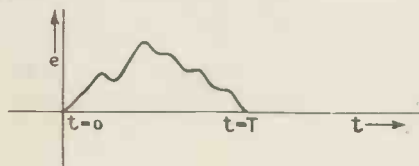

Fig. 9. — Arbitrary wave as generated in television signals.
Similarly, any arbitrarily shaped pulse as shown in Fig. 9 can be represented by
Clearly, $f(t)$ in (6) is of the form given in (1), i.e., it consists of a series of sine terms whose amplitudes may be of any value and whose frequencies are once, twice, three times, etc., the scan-line frequency. Although we have stated that the amplitudes may be of any value, invariably in representing any signal of the form shown in Fig. 9 we find that the amplitudes of the various components show a tendency to decrease as their frequency increases.
Now the series corresponding to the above wave contained only cosine terms of odd harmonics. If instead of a square wave we are interested in the transmission of a single pulse of an entirely arbitrarily-shaped wave as, for example, that of Fig. 9, we can, by pursuing an exactly similar argument, draw a curve representing the frequencies involved. Fig. 14 shows such a curve where negative amplitudes are regarded as positive since their sign is immaterial. The maximum amplitudes of the components round $f_0, 2f_0, 3f_0, \dots$ may be of any value, according to the exact shape of the curve of Fig. 9, but in general, the amplitude of a component at nf_0 will diminish as n increases. Similarly, the exact shape of each hump will alter as the exact wave shape alters, but the general shape of the complete curve will be as shown. f_0 will, of course,
correspond to $\frac{I}{T}$ in Fig. 9.
Clearly, the type of curve shown in Fig. 9 is the type of curve in which we are interested in television. The
distribution of light and shade, and consequently the current variation per scan line might very well be of the form of Fig. 9. From the very nature of the problem we cannot specify the exact shape of the curve expressing this variation, for it will alter from scan line to scan line. All we do know is that T corresponds to the time taken for one scan line.
We have to consider then, firstly, what effect frequency limitation in the amplifier will have on the television signal, and what other conditions have to be met in the design of television amplifiers. For theoretical treatment we cannot deal with the most general type of signal as shown in Fig. 9, and shall therefore consider, as regards the effect of frequency limitations, the unit impulse wave of Fig. 4. It will be seen that no loss of generality attends this method for the unit impulse wave is, virtually, the multiplier which renders possible the existence of the more complicated transients, and the effect of frequency limitation on this latter will be obtained from the effect on the unit wave.